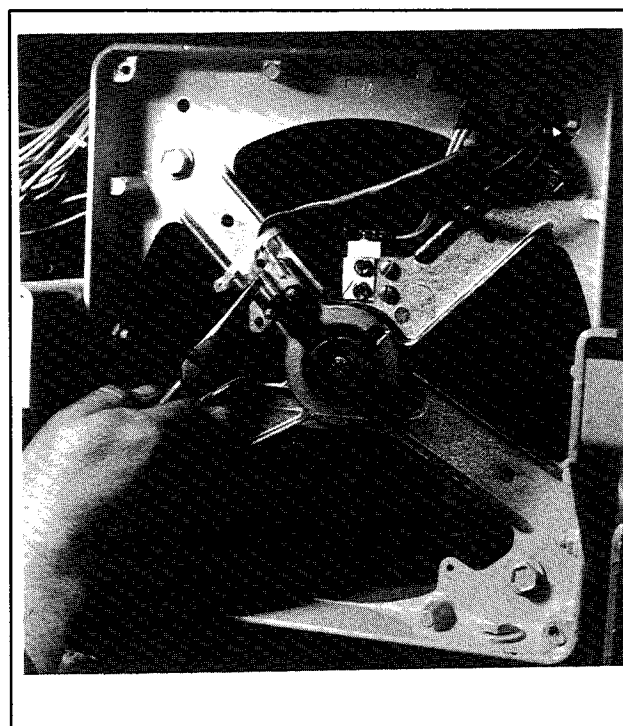

Figure 8-7. Magnetic Pick-up Leads
8. Remove leads from magnetic pickup. Note order of leads: black, red, and white (top to bottom). See Figure 8-7.